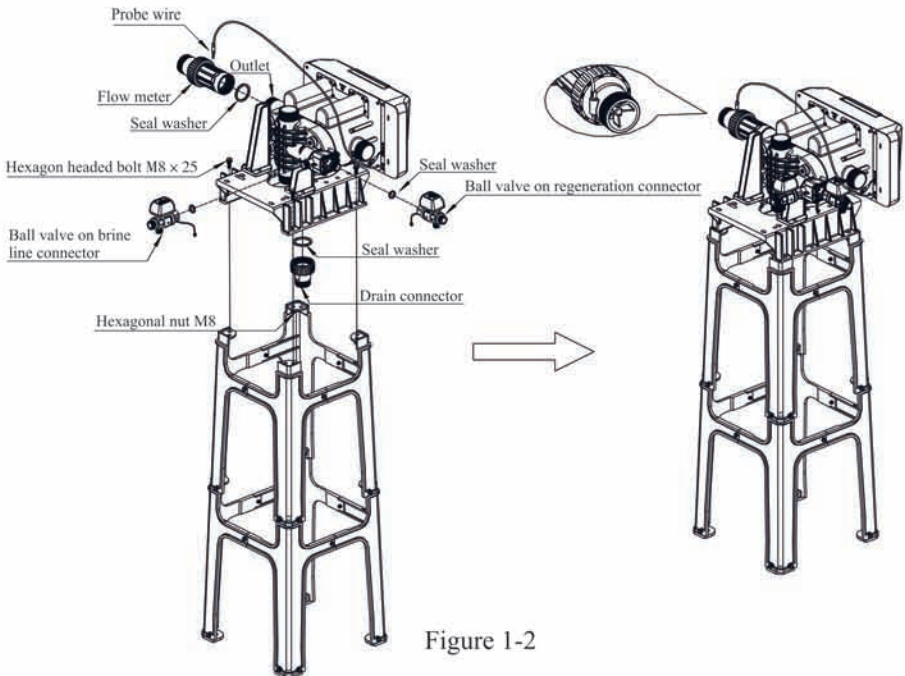
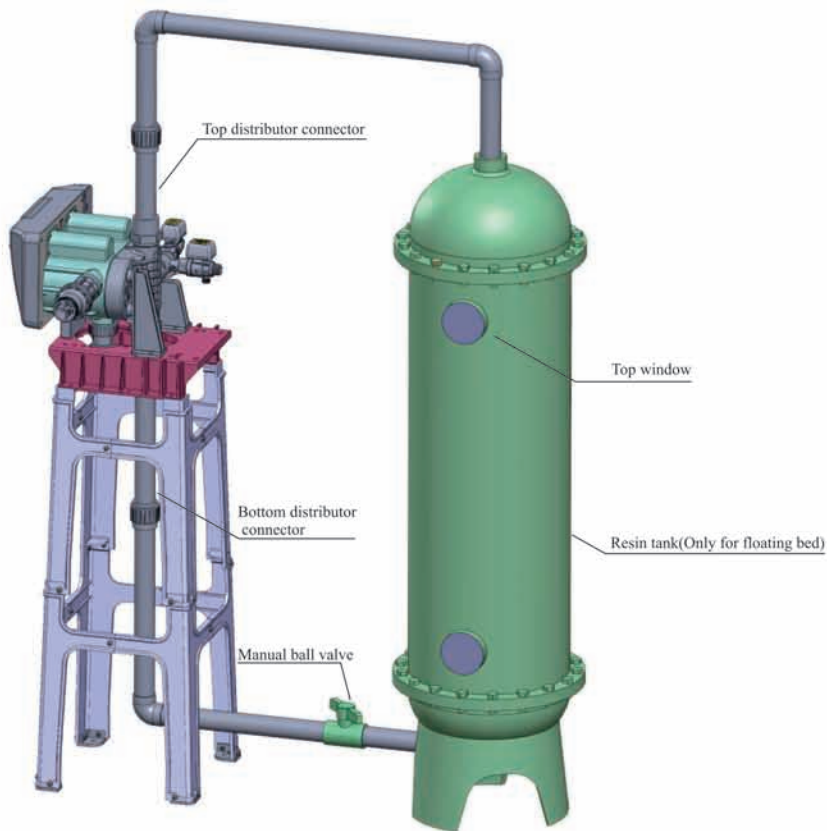

Figure 1-2
Figure 1-3
- a. As Figure1-2 shows, use the 4 pieces of hexagon bolts (M8*25) to install control valve on the seat frame.
- b. As Figure1-2 shows, put the sealing ring into flow meter connector, screw in water outlet; insert the sensor into flow meter.(Without this step when the control valve is time clock type)
- c. As Figure1-2 shows, when install the brine line connector ball valve and regeneration connector ball valve, it need to put in the sealing ring.
- d. As Figure1-2 shows, Insert drain line flow control into drain hose connector, then crew it into drain outlet, and lock it.
②Installing resin tank and top/bottom distributor
- b.Top and Bottom distributor pipeline connection is like Figure 1-3,Install a manual ball valve between bottom distributor and tank.